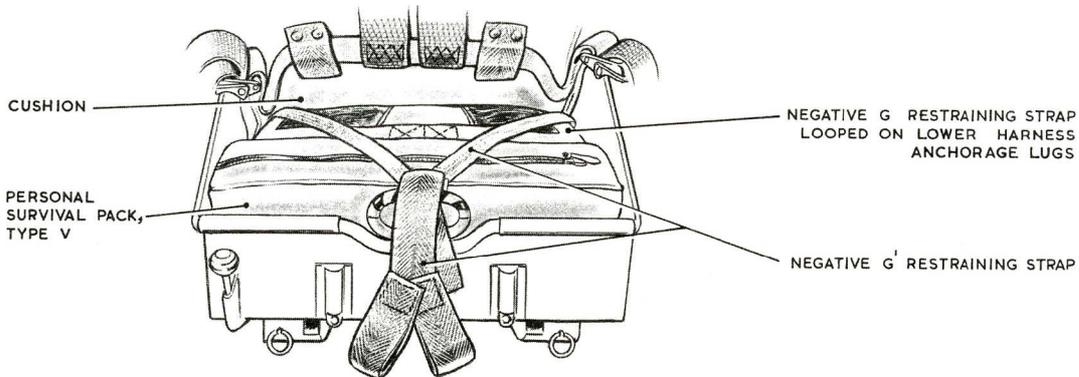

Fig. 3. Arrangement of negative 'G' restraining strap on P.S.P
(5) Fig.3. Arrangement of negative-G restraining strap on P.S.P Disregard Fig. 3 in Chapter 4 and refer to Fig. 1 of this addendum.